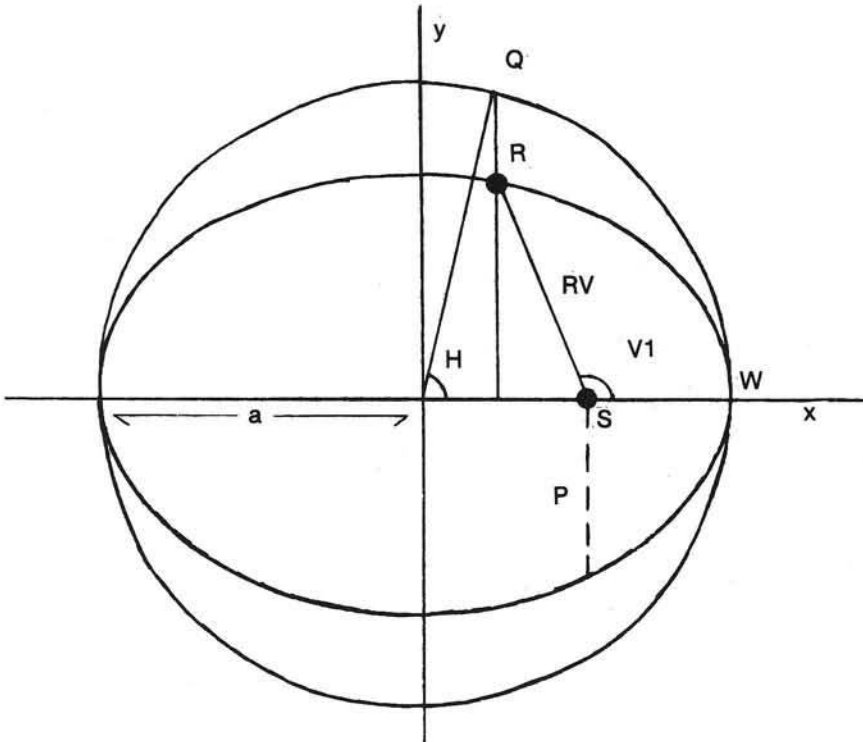

Figure 2
axis,  $e$  the eccentricity of the ellipse ( $c/a$ ) and  $H$  (figure 2), the angle in RADIANS from the center of the ellipse to point  $q$ . Point  $q$  being on a circle of radius  $a$ , intercepted by a perpendicular line from the major axis going thru point  $R$  to the circle.
we get the angle V1 that the planet lies in relation to the sun (figure 2). The value P in equation (4) being a perpendicular line from the focus to the ellipse and equal to  $a(L-e^2)$ . By increasing angle A at the daily rate we get the X,Y coordinates for each day and plot it on the screen.